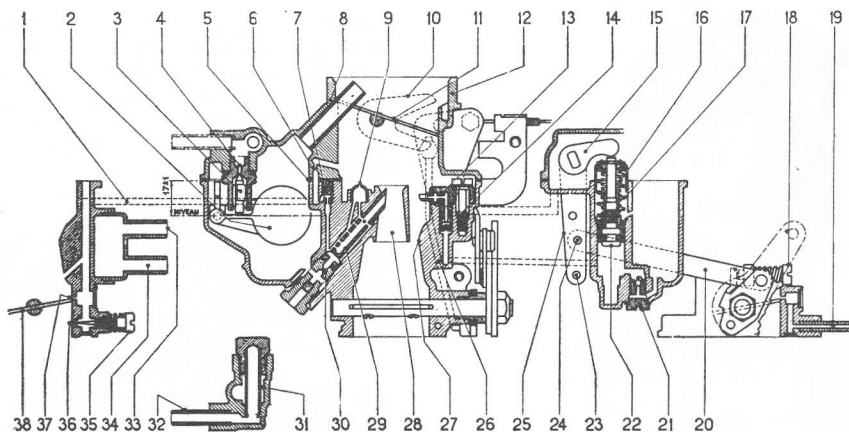

FIG 2:16 Diagrammatic sections through carburettor, Zenith 34 WIM
- 8 Push the emulsion tube into position and then screw in the air correction jet (see FIG 2:12).
- 10 Install the pump check valve and strainer assembly, and the idle mixture adjusting screw (see FIG 2:13). Turn the screw in until it lightly touches its seat, and then back it out two turns for a preliminary adjustment.
- 11 Replace the starter unit (see FIG 2:14). No gasket is needed. Move the control lever back and forth to make sure that it is free. The starter unit takes the place of a choke by admitting more fuel when the control lever is pulled back to the start position.
This type of carburettor will be found on some engines in place of the Solex which it very much resembles as will be seen from the exploded view in FIG 2:15 and the sectional diagram of FIG 2:16.
Key to Fig 2:16 1 Passage 2 Float 3 Needle 4 Valve 5 Float chamber 6 Calibrated air passage 7 Idle jet 8 Air correction jet 10 Forked lever 11 Choke plate 12 Top cover 13 Pump jet 14 Valve 15 Lever 16 Spring 17 Spring 18 Throttle stop screw 20 Lever arm 21 Valve 22 Piston 23-24 Pivot holes 25 Lever 26 Adjustable rod 27 Venturi 28 Venturi 29 Atomizer 30 Main jet 31 Filter 32 Inlet 35 Idle mixture screw 36 Orifice 37 Orifice 38 Butterfly